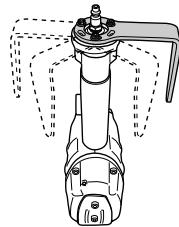

Fig. 2
- The hook can be attached in any direction. Adjust the hook according to the operating environment (Fig. 2).